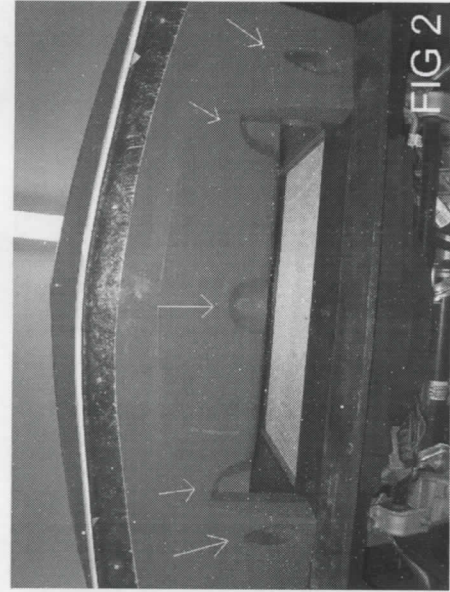
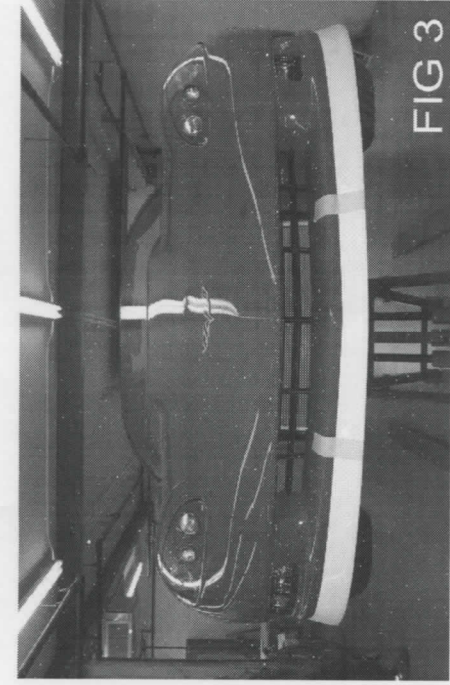

FIG 2
FIG 3
3. REMOVE FIVE (5) BOLTS FROM FRONT BUMPER COVER AND SET ASIDE (SEE FIG. 2).
4. REMOVE THE SPOILER RETAINERS FROM YOUR NEW ACI FRONT SPOILER BY REMOVING THE EIGHT (8) HIGH/LOW SCREWS. SET RETAINERS ASIDE FOR LATER INSTALLATION.
5. HOLD SPOILER UP TO CAR AND SECURE USING 2" MASKING TAPE (SEE FIG. 3).